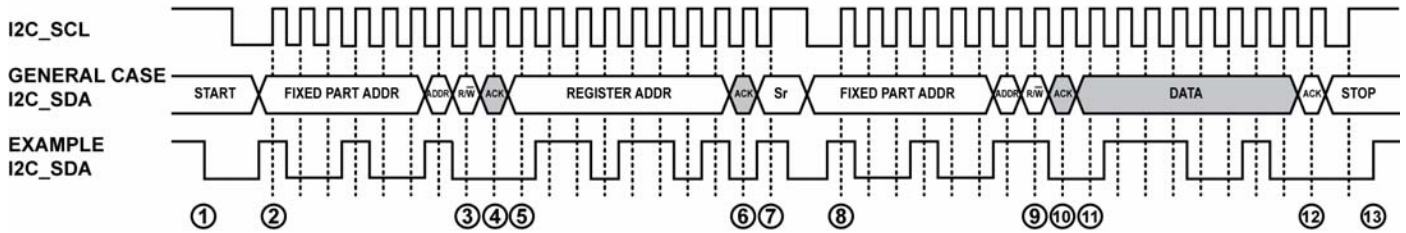

Figure 15. I²C Read Diagram
9. Send the read indicator bit (1).
- a. Send a stop condition (while holding the I2C_SCL line high, pull the SDA line high) and release control of the bus to end the transaction (shown in Figure 15).